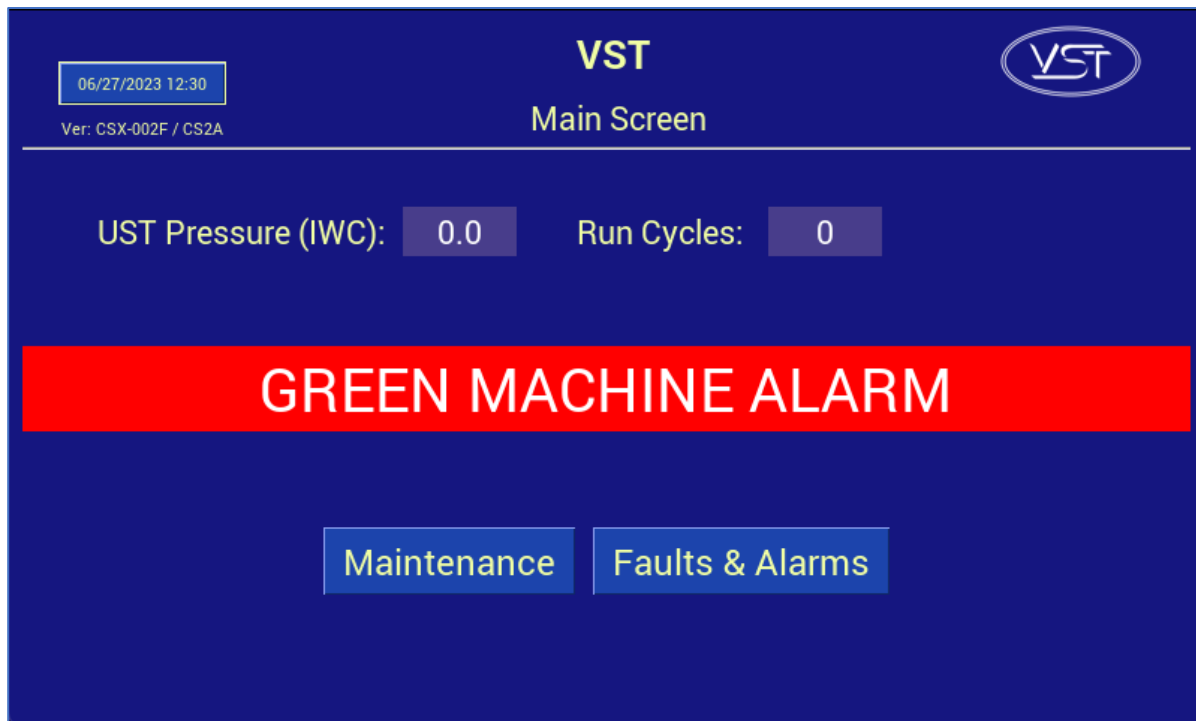

Figure 8-2: Control Panel Main Screen with an Alarm Active
- When the system is in alarm, the GM Status Bar will turn red. **See Figure 8-2.**